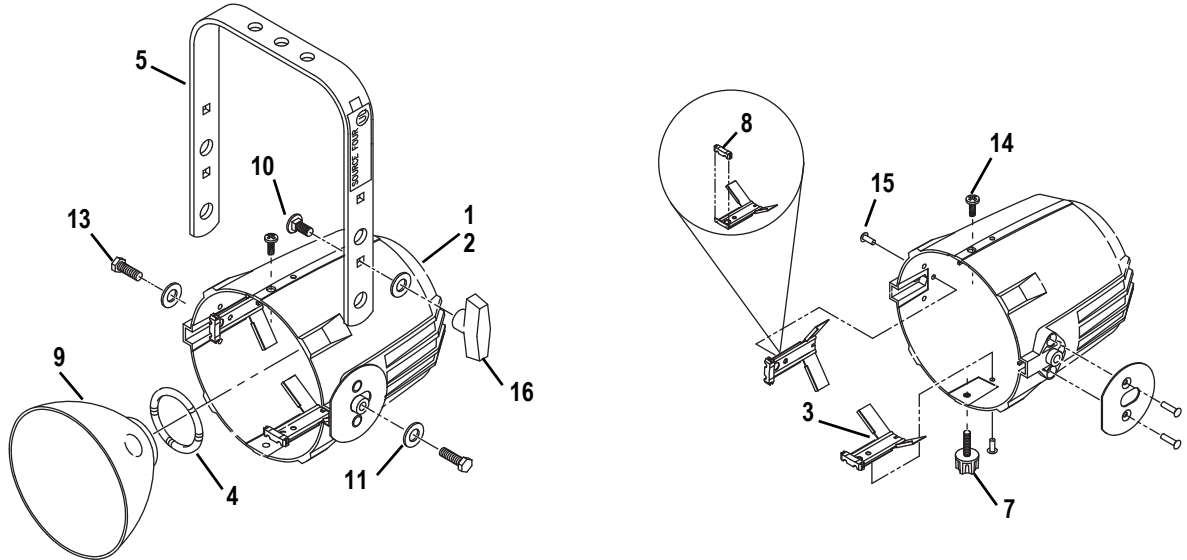

Figure 8
Note: *The following assumes all four reflector retainer clips (2) have already been riveted to the reflector housing casting (1) and the gate bushings (3) installed on the retainer clips. See Figure 8.*
- Step 2: Install the reflector support spring (4) in the circular opening at the base of the casting.
- Step 3: Insert the reflector (9) at an angle, under any three adjacent legs of the reflector's clips.